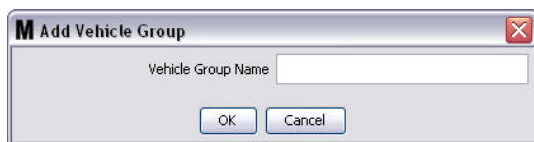

FIG. 165
3. The Add Vehicle Group text box shown in FIG. 165 displays. This box is used to assign a Group Name to identify the vehicles you are putting together in a group. Click the OK button to close the box and save the name.